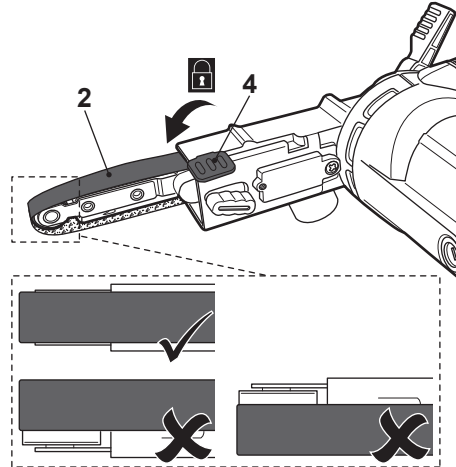

Fig. 3
- > Press the clamp lever (4) back in. Slightly pull on the sanding belt (2) to test if it sits properly in place (Fig. 3).